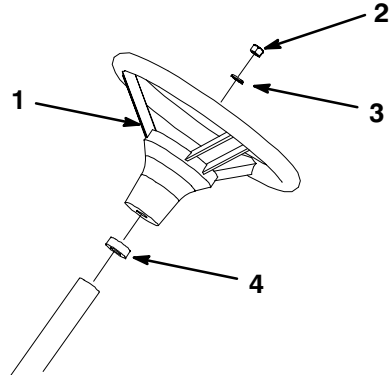

Figure 3
3. Secure steering wheel to shaft with hex nut (Fig. 3).